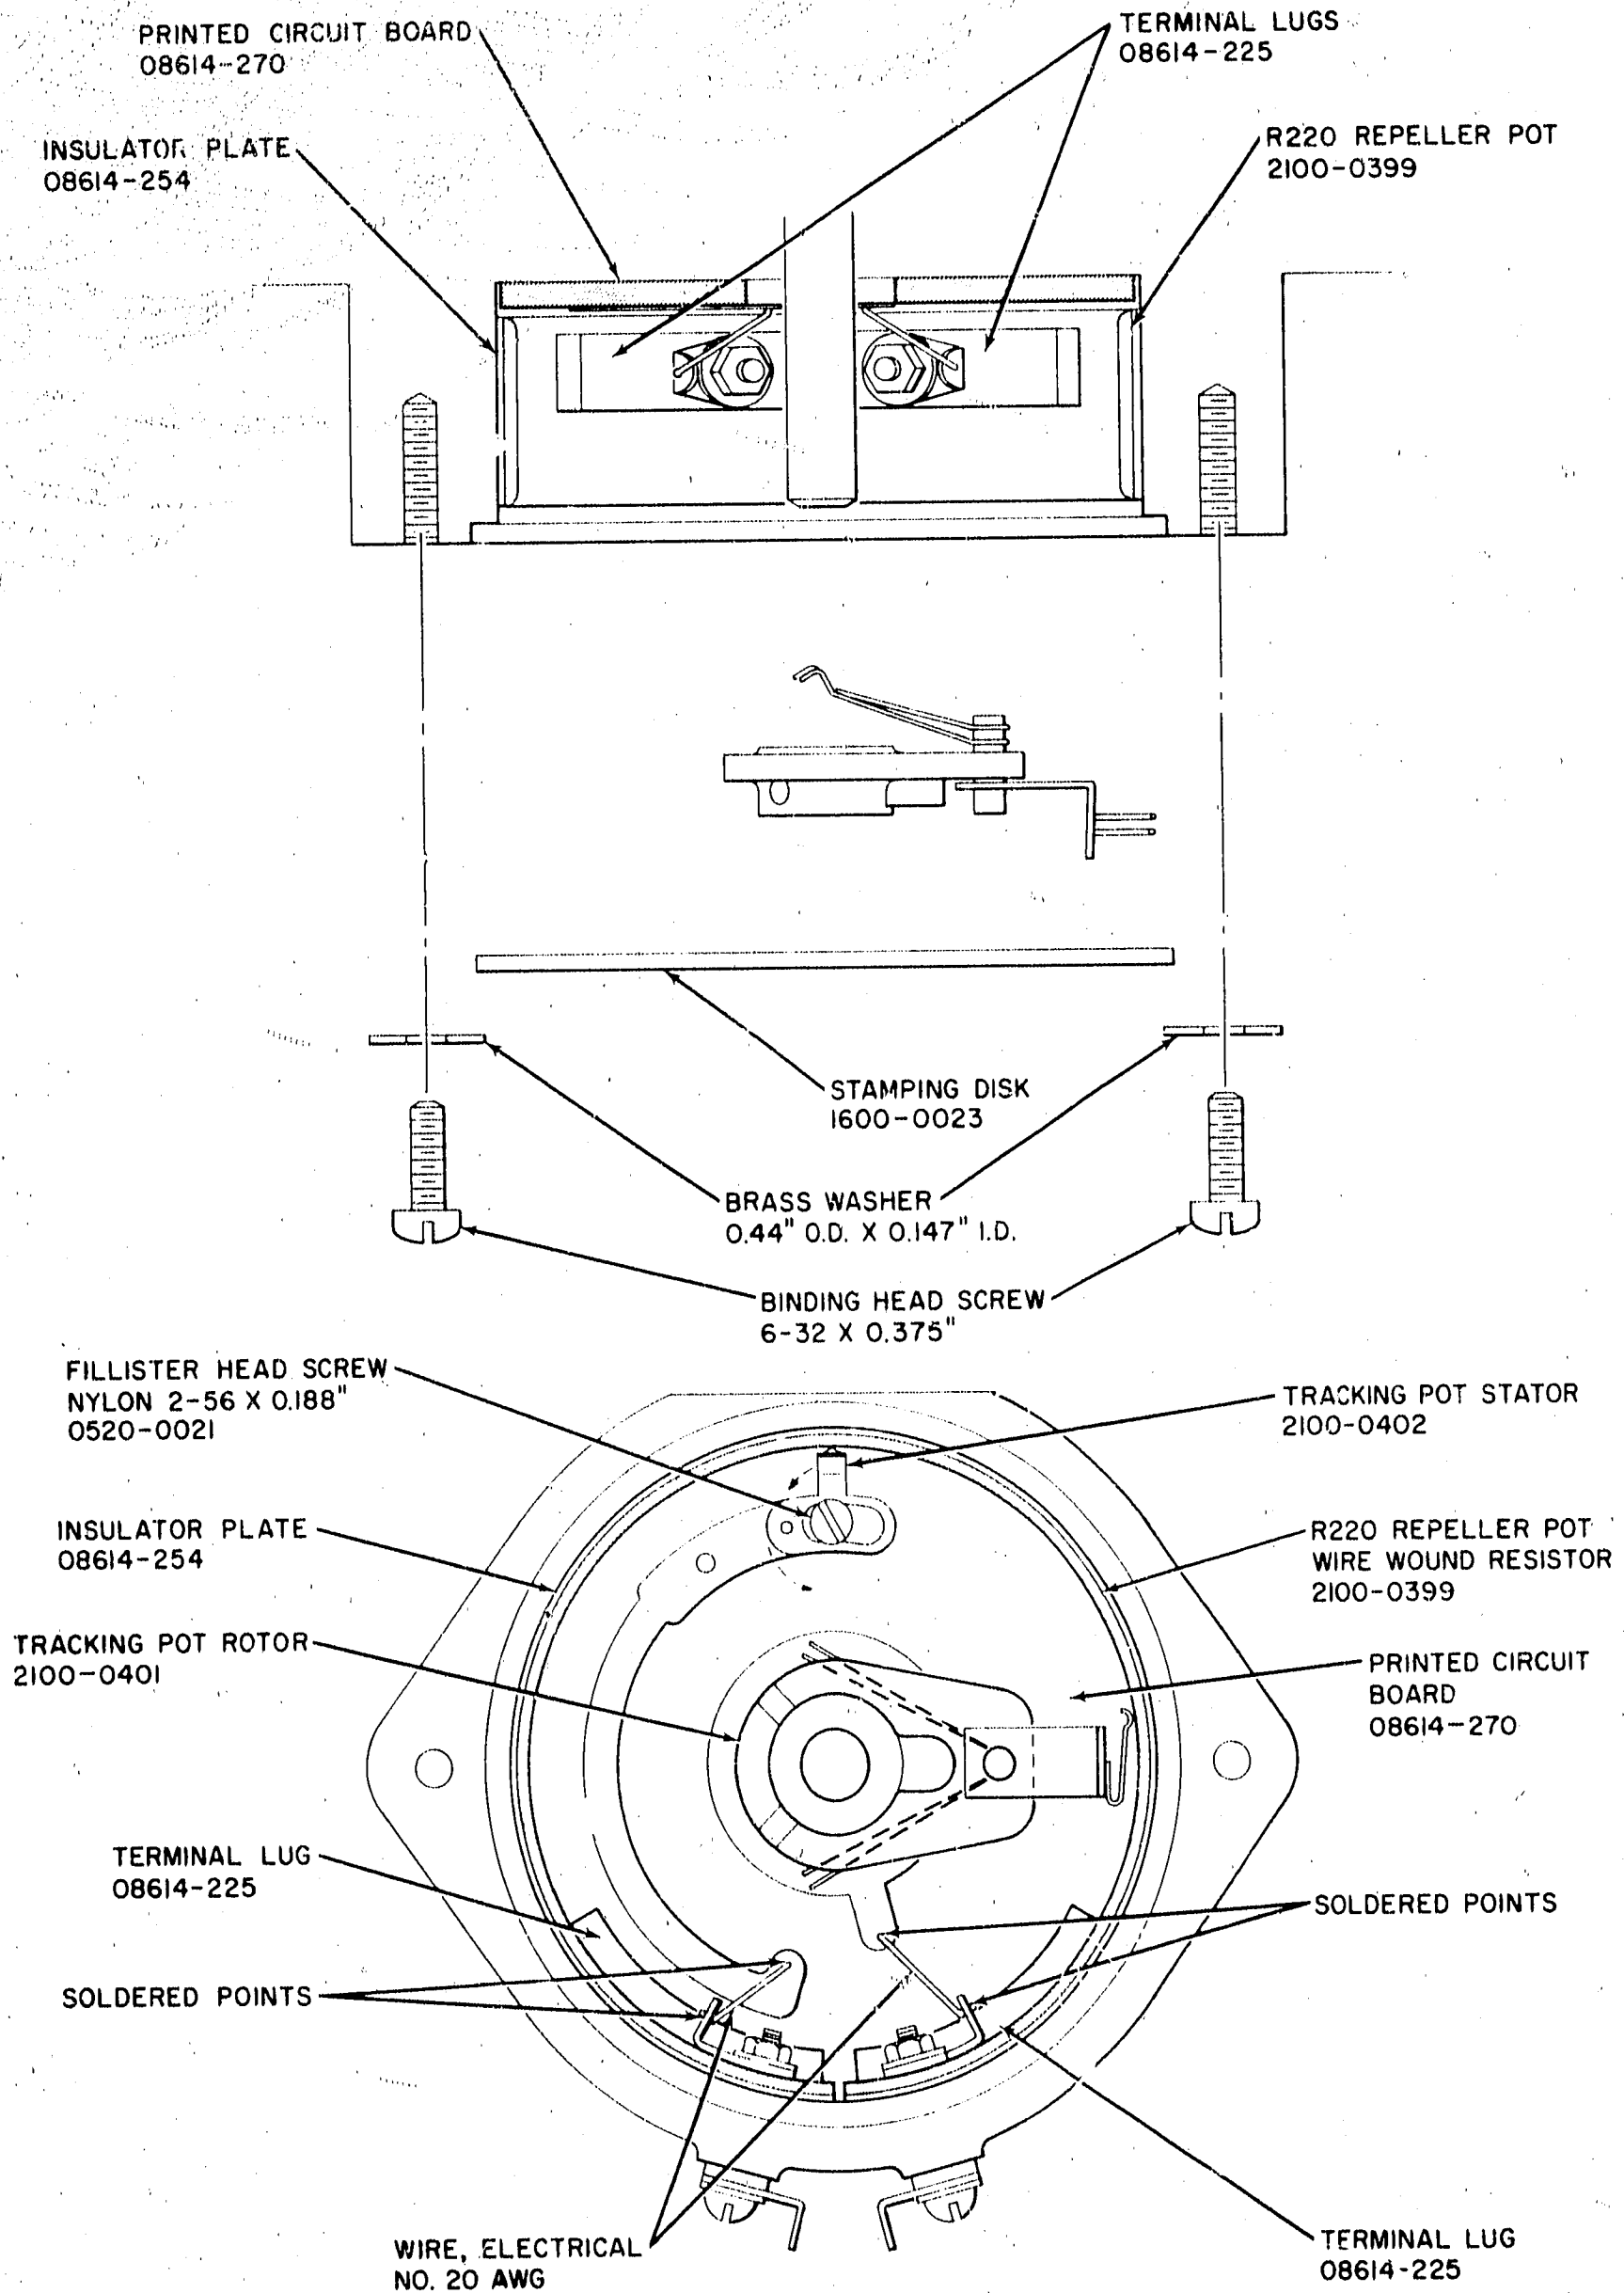

Figure 5-17. Repeller Pot Assembly
5-75. If it is necessary to replace the repeller pot (R220, a wirewound resistor), then both R220 (HP Part No. 2100-0399) and the insulator plate (HP Part No. 08614-254) must be replaced. Use Figure 5-7 as a location guide and Figures 5-17 and 5-18 as replacement guides and proceed as follows:
i. Refer to Figure 5-17; R220 must be relatively flat against wall of casting. The resistor can be flattened against casting wall by pushing on edge, CAREFULLY, and tightening in place.
j. Once R220 has been adjusted for flatness and the retaining screws firmly tightened, replace tracking pot rotor in assembly. The tracking pot rotor must be set in place so that contact is made with inner printed circuit board ring at all times. Also, the rotor contact with resistor must be uniform with contact made as illustrated in Figure 5-17; only the curved end of the contacts may touch the repeller pot at any point.
k. Using a flat blade screwdriver to turn the nylon screw, turn tracking pot stator back to original contacting position as illustrated in Figure 5-17.
m. Set FREQUENCY (MC) front panel dial to 1600 and note position of repeller tracking pot rotor: the tracking pot rotor resistor contacts